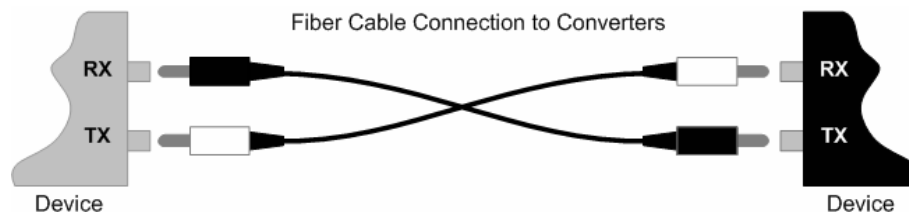

Figure 14: Fiber Cable Installation
1.	Locate a 100/1000Base-FX/SX/LX compliant fiber cable with male, two-stranded connectors installed at both ends. See Figure 14.
2.	Connect the fiber cables to the FBRM or BFFG Devices as shown in Figure 14.